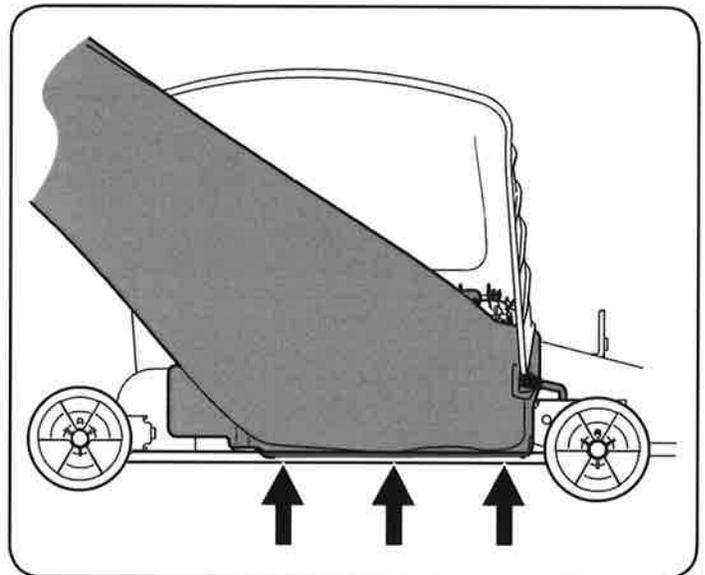

Figure 20
**IMPORTANT:** Be certain that the bottom of the discharge chute is located inside of the lip of the deck opening, as shown in Figure 20.
**Important:** Regardless of what model of tractor you are installing this bagging kit on, be certain that the bottom of the discharge chute is located down *inside* of the lip of the deck opening, as shown in Figure 20.